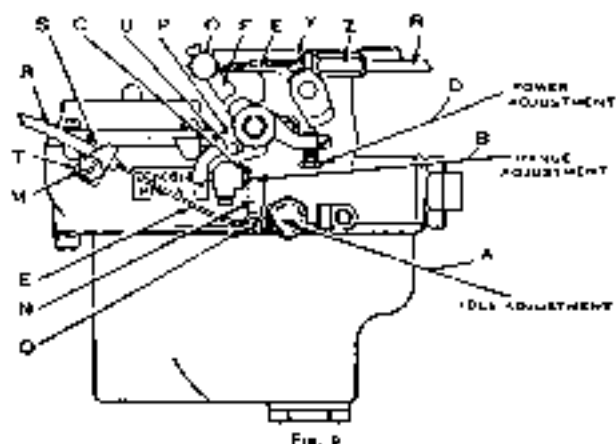

FIG. 9
Control Hook-up, Starting and Adjusting.—When using the loose lever (N, Fig. 9) the control tubing (R) is fastened in clamp (S) with screw (M) and the clip (T) inside of body just below the air funnel. Fasten the control wire (E) in the binding post (O) on loose lever (N) with the
Idle Adjustment.—Turn the idle adjusting knurl (A, Fig. 9) to the right for a lean mixture, and to the left for a rich mixture. To check the idle adjustment, warm up the motor thoroughly and by this we mean to have a hot motor. Then close the throttle, retard the spark all the way if car has manual spark control and then adjust idle stop screw so that motor will not idle less than five miles per hour on the road. After you have the proper idle engine speed then proceed to check the idle adjustment as follows: Turn the idle adjusting screw (A) to the right (clockwise) turning slowly, watching the motor fan at the same time and continue to turn in this direction, which is the lean direction, until the fan falters or in other words is not turning with a smooth, constant motion. Just as soon as the fan falters stop turning the idle adjustment (A) to the right (lean) and from this point turn the idle adjustment back to the left or rich direction exactly 6 clicks for summer driving and 8 to 9 clicks for winter driving, clicks can be felt while turning the idle adjusting knurl (A). This will give you an accurate setting on the idle adjustment providing you follow out all of these instructions just as we have outlined them.